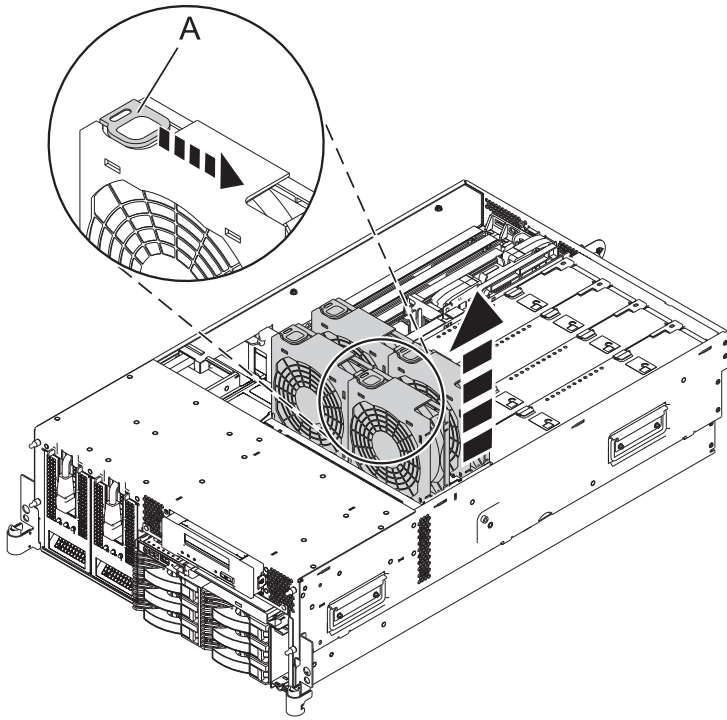

Figure 9. Removing the fan from the 8204-E8A or 9409-M50 fan cage
- 1) To remove the fans, squeeze the tab (A) and lift the fan out of the fan cage as shown in Figure 9.